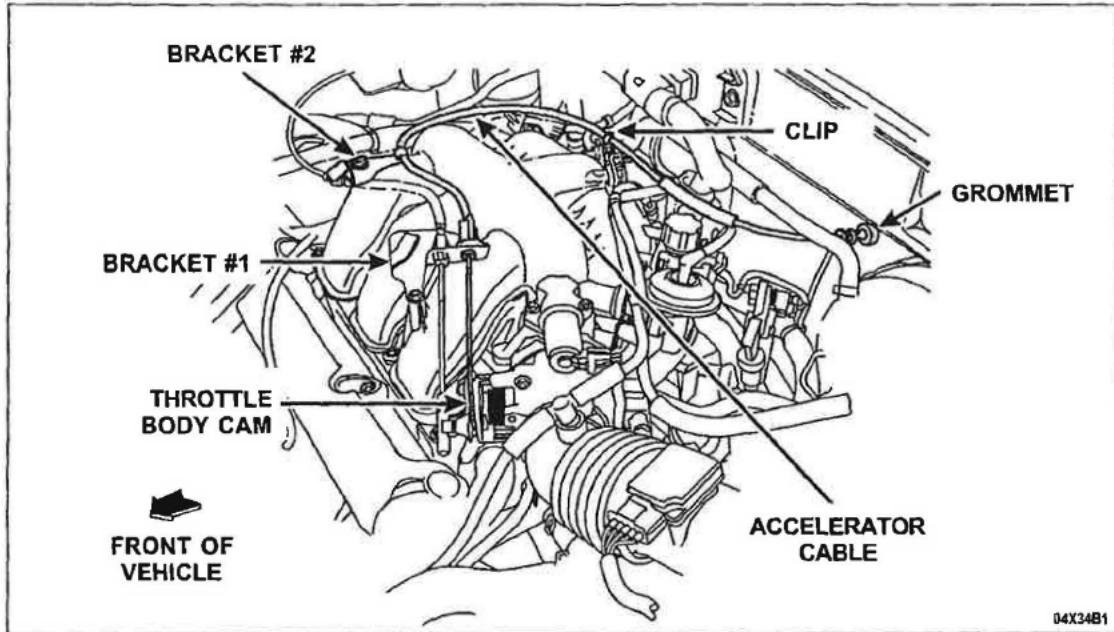

FIGURE 2
3. Disconnect the accelerator cable as follows: See Figure 2.